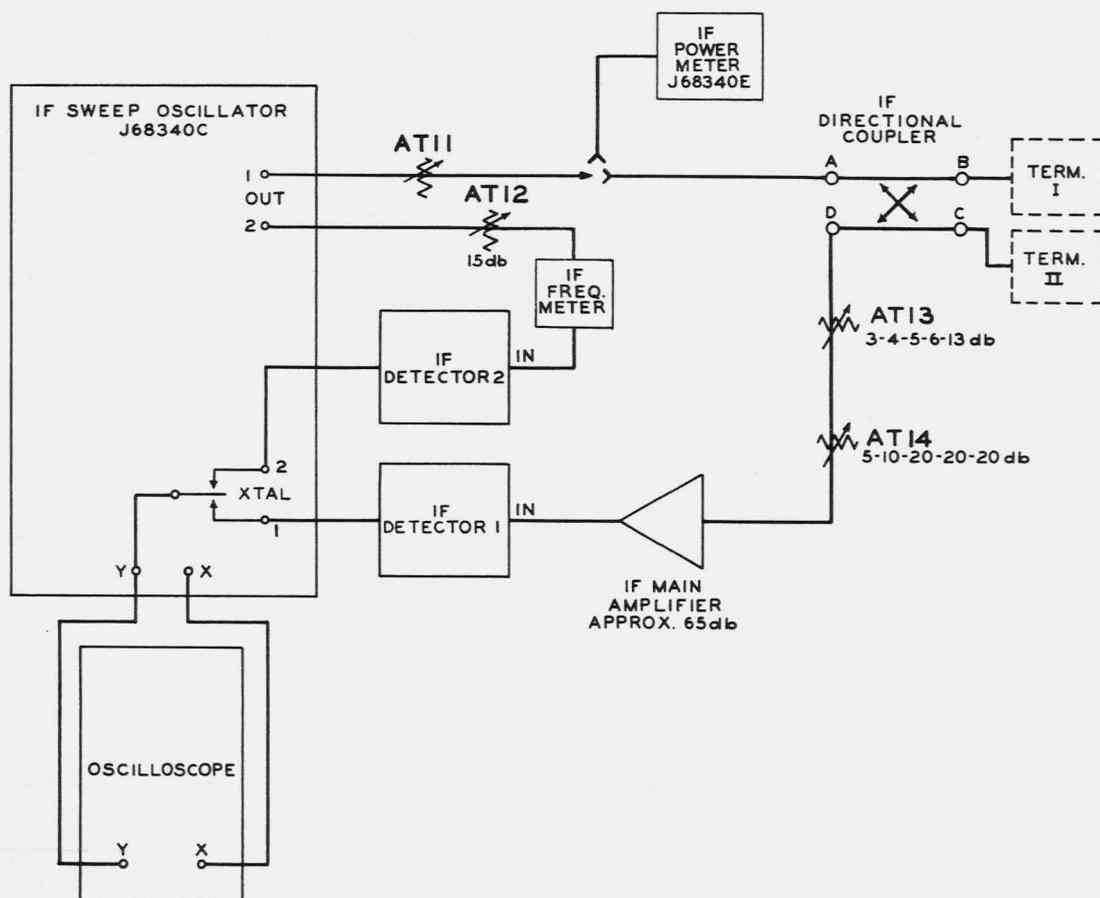

Fig. 6 - Test Arrangement for Measurement of Impedance of IF Amplifiers
- (1) Connect the test circuit as in Fig. 6 and set the power levels as follows: